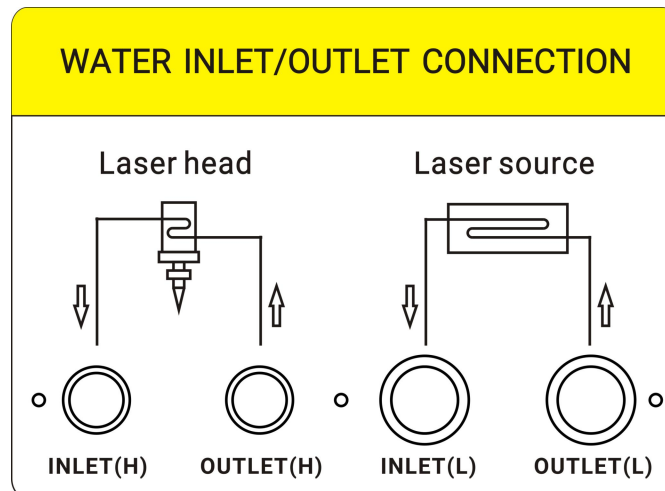

Figure 5: Water chiller to laser connection diagram
- (3) Pipeline Connection: The method of connecting the chiller and the laser machine is illustrated in Figure 5. The inside diameter of the piping should not be smaller than the chiller's inlet and outlet pipe diameter. If the inside diameter of the piping is smaller than required, the approval of the chiller manufacturer should be obtained.